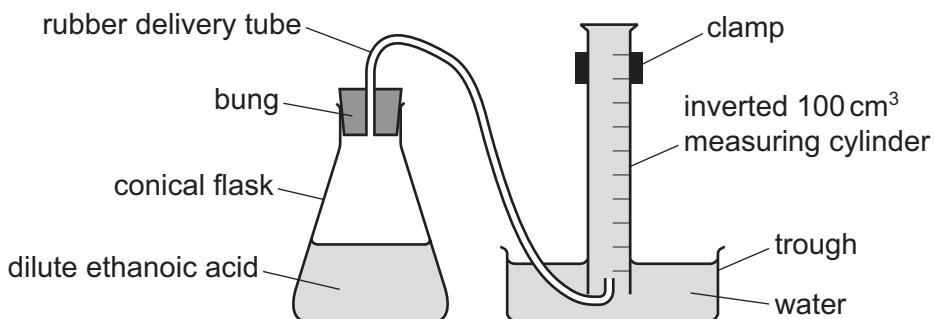

Fig. 1.1
You are going to do two experiments using the apparatus shown in Fig. 1.1.
- Set the apparatus up as shown in Fig. 1.1, ensuring the inverted 100 cm^3 measuring cylinder is full of water.